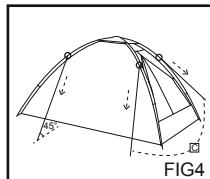

FIG4
7. Tie one end of the guy ropes<C>onto the four corner hoops of outer tent<A>.(FIG4)
8. Tie the other end onto the tent pegs<D> and fasten them by inserting the tent pegs<D> into ground.(FIG4)